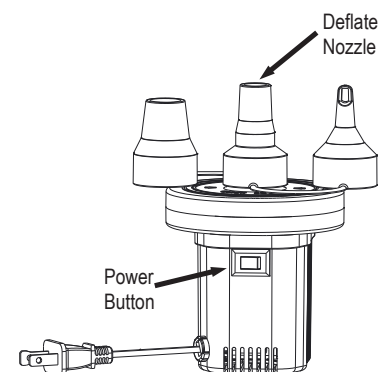

FIG.2
- Push the power button to start the air pump. (Fig. 2)
- Insert the nozzle to the air pump deflate outlet. (Fig. 2)
- Push the power button to start deflating the inflatable. (Fig. 2)